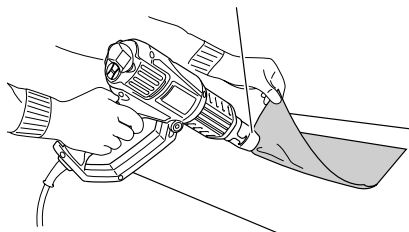

Fig. 7
2. Softening adhesive (Fig. 7)